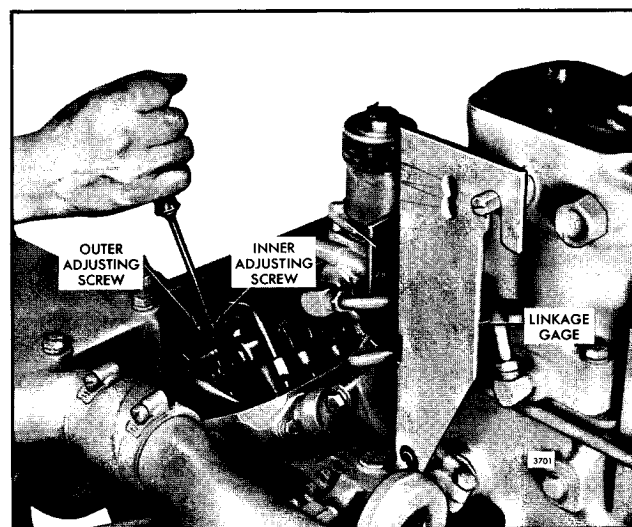

Fig. 3 - Positioning No. 1R Injector Rack Control Lever
6. Adjust the 1R injector rack by turning the inner adjusting screw down until it bottoms on the control tube (Fig. 3). Turn down the outer adjusting screw until it also bottoms on the